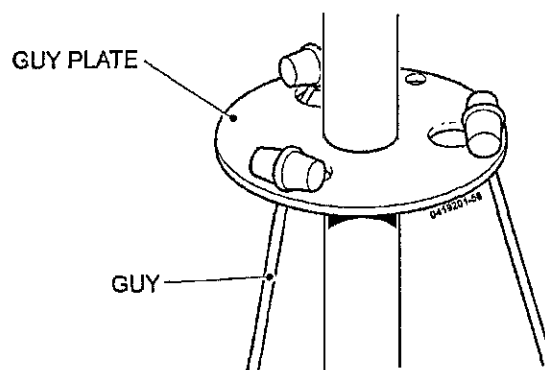

Fig 26 5.4 m mast guy plate deployment
98.1.3 Fit one of the two guy plates over the third mast section (Fig 26) and then add the remaining three mast sections.
98.3 Remove the remaining three guys from the storage formers and pass the guy toggles through the guy plate eyelets (Fig 26). Locate the toggles so that they will not pull back through the eyelets when the guys are under tension.